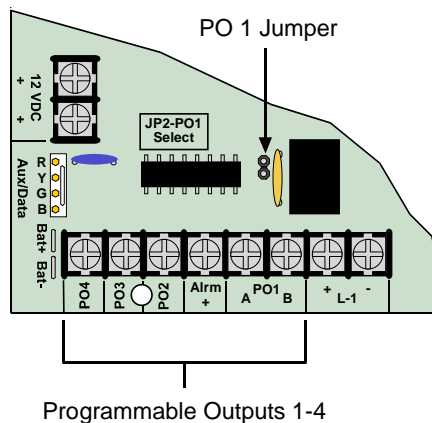

Figure 5: On-Board Outputs
- **Programmable Output 1 (PO1):** PO1 terminals can be configured as an alarm power output. JP2-PO1 Jumper must be closed. The default configuration for Programmable Output 1 makes it a dry contact, normally open relay. The PO1 Jumper is open. See *Figure 5* for jumper location.